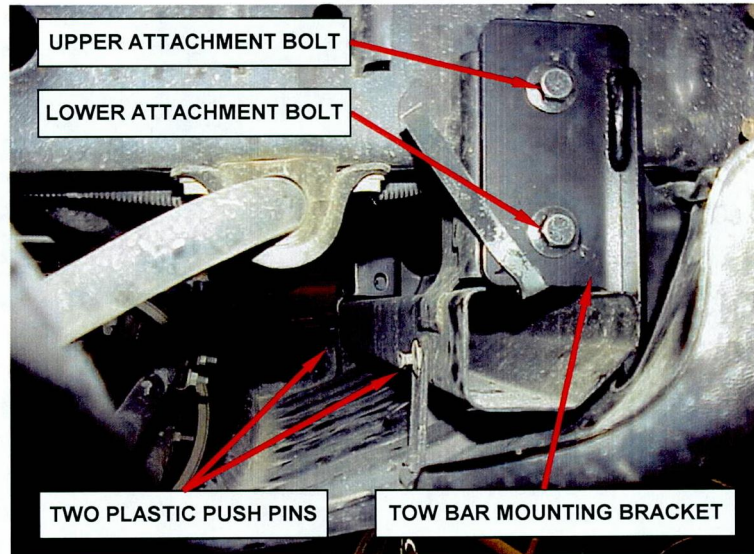

Figure 3 – Front Air Dam Rear Fasteners
4. Remove and save the two plastic push pins from the rear of the front air dam (Figure 3).
b. Attach a $\frac{3}{4}$ inch wrench to the top tow bar bracket handle nut and remove the upper attachment bolt (Figure 3).
c. Attach the $\frac{3}{4}$ inch wrench to the lower tow bar bracket handle nut and remove the lower attachment bolt (Figure 3).
11. Install the two plastic push pins at the rear of the air dam (Figure 3).